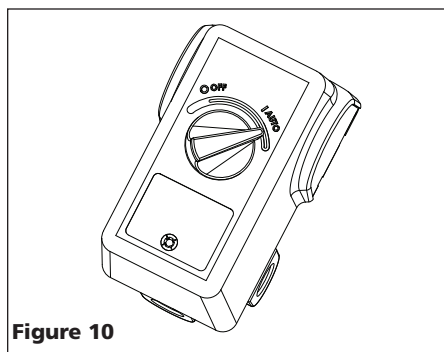

Figure 10
3. Move pressure switch lever or knob to the OFF position and plug in power cord. Move pressure switch to the AUTO position to run the unit (see Figure 10).